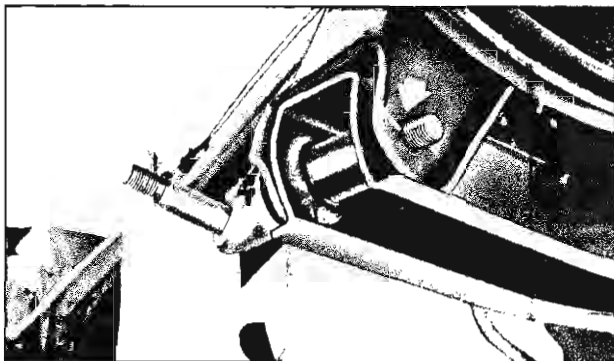

Fig. 11—Anchor Pin Alignment
1. Using chalk, mark the flat spot location on the anchor pin threads and on the corresponding flat on the lower control arm bracket (fig. 11). It is advisable to remove the rear wheel and tire assembly to aid in the alignment of these two chalk marks.